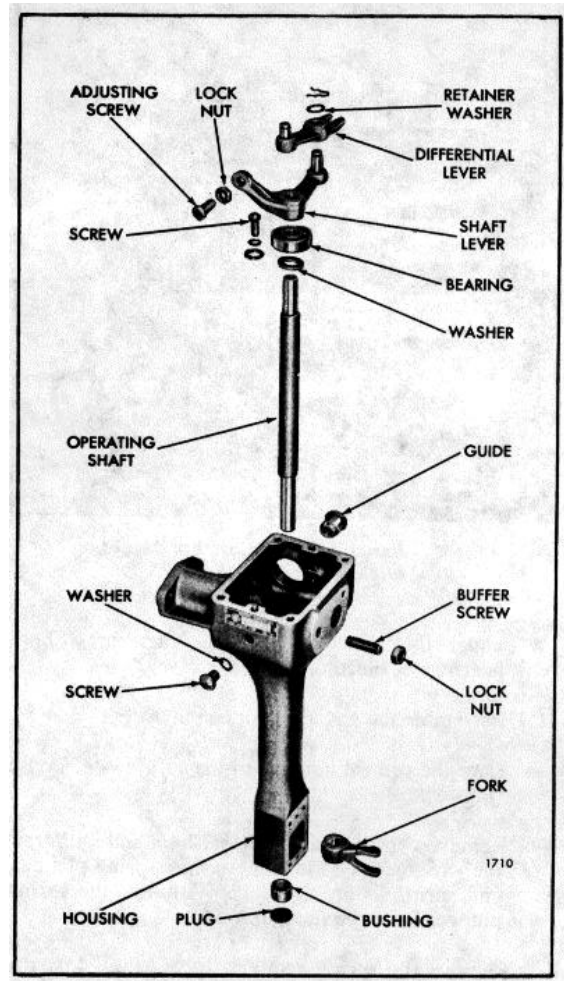
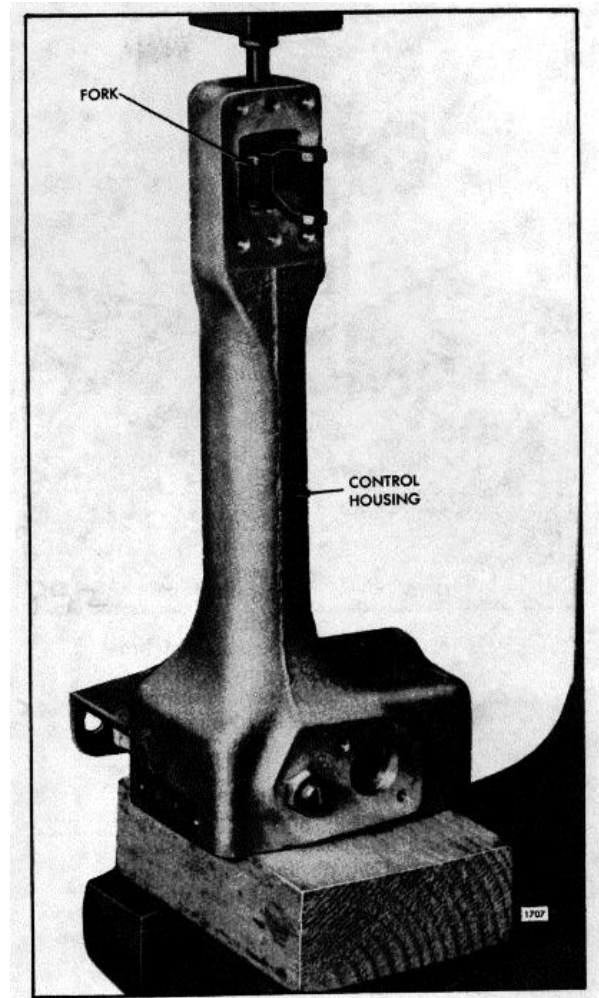

Fig. 5 Governor Control Housing Details and Relative Location of Parts
Fig. 7. Removing Operating Shaft from Operating Fork
- a. Place the control housing in the soft jaws of a vise (Fig. 5).
- f. Support the control housing bottom side up on the bed of the press. Use a brass rod and press the operating shaft from the operating fork (Fig. 7). Withdraw the operating shaft, operating lever and bearing as an assembly from the control housing (Fig. 5).
1. Place the bearing washer over the short, finished end of the operating shaft (Fig. 5). Start the bearing over the end of the shaft. Support the opposite end of the shaft on the bed of the press. Using a sleeve having the same diameter as the bearing inner race, press the bearing on the shaft tight against the washer.